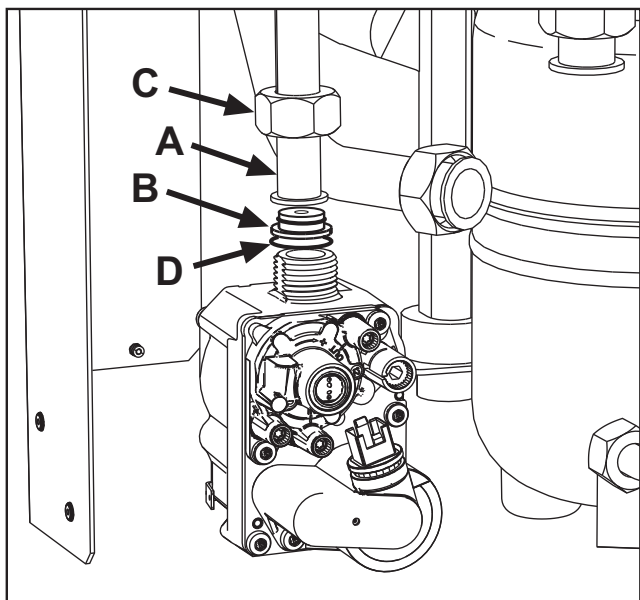

fig. 22
3. Unscrew ring **C** and remove gas pipe **A** from the gas cock (see fig. 22).
4. Replace nozzle **B**, inserted in the gas pipe, with that contained in the conversion kit, interposing seal **D** (see fig. 22).